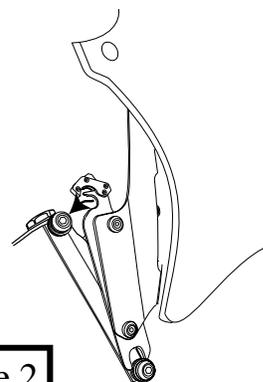

Figure 2
3. Slip the fairing mounting plates and fairing onto the upper and lower bushing assemblies, (see figure 2 and 3) and secure the left and right side locking mechanism.